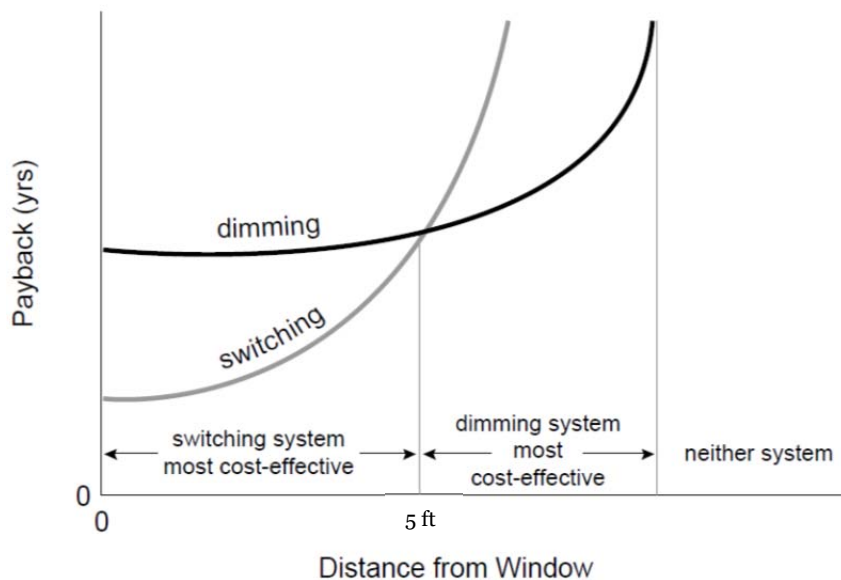

Figure 31: Dimming/Switching payback chart
- Choose dimming hardware if daylighting, lumen maintenance, or tuning are the selected control strategies.** With the cost of dimming ballasts still high, dimming control is still more expensive than switching control (although ballast costs continue to fall) but it is the best for implementing these strategies. It is also generally the most acceptable to occupants, because changes in the electric light levels are least disturbing. Daylighting and lumen maintenance strategies integrate well, since they use the same hardware. Dimming is not cost effective in non-daylit areas unless coupled with occupancy or scheduling controls. Dimming can capture all possible daylighting savings. For spaces with adequate daylight all day long and for non-critical visual tasks, switching may be acceptable, since the lights may adjust only once or twice during stable daylight hours. Scheduling (either with automatic time controls or occupant sensors) can be implemented effectively with switching controls. Switching technologies are generally inexpensive, have a short payback period, and typically do not require specialized expertise to install. They are compatible with other lighting systems and are easily adjusted. Figure 31 shows payback curves for dimming and switching options.